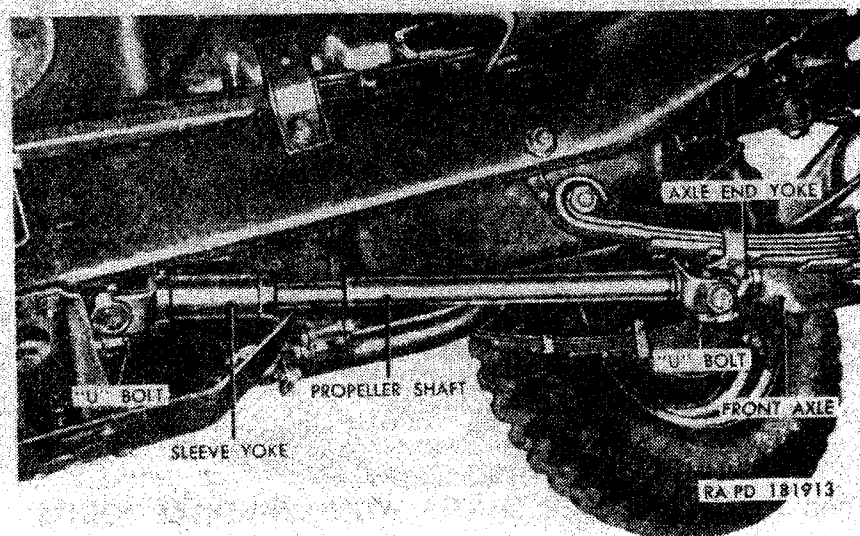
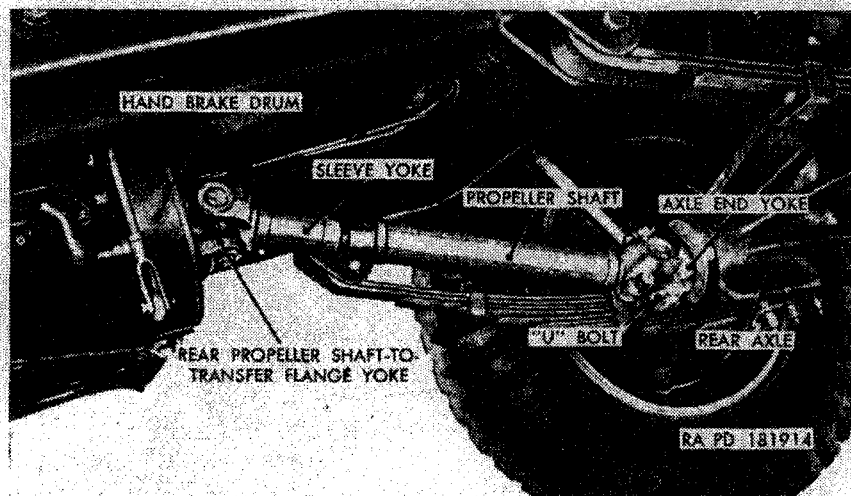

Figure 129. Front propeller shaft with universal joint assembly—installed.
Figure 130. Rear propeller shaft with universal joints—installed.
a. *Description.* The front propeller shaft (fig. 129) with universal joints transmits power from the transfer to the front axle. The rear propeller shaft (fig. 130) with universal joints transmits power from the transfer to the rear axle. Each assembly includes a propeller shaft, a universal joint sleeve yoke, and two universal joints. Corresponding parts of the front and rear assemblies are similar except for the length of the shaft, and the front universal joints of the rear propeller shaft. This universal joint includes the propeller shaft flange yoke, and is modified accordingly.
(fig. 129)
(fig. 130)